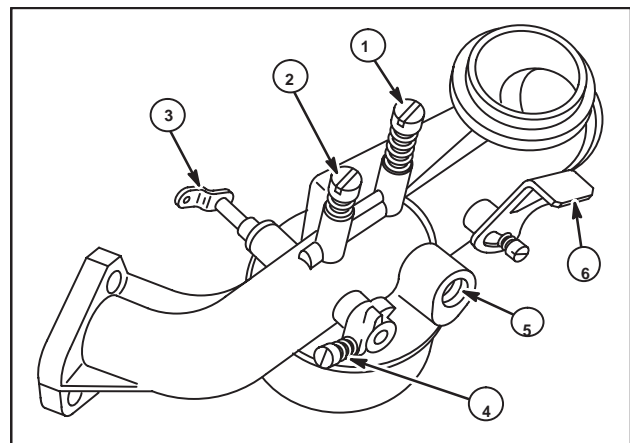

Fig. 122
The small One-Piece Flo-Jet carburetor is illustrated in Fig. 122 and was used on early Model Series 170700. These are float feed carburetors with adjustable orifice main jet needle valve and adjustable idle circuit needle valve located on top of carburetor.
- Main jet needle valve (1)
- Idle mixture needle valve (2)
- Throttle lever (3)
- Idle speed adjusting screw (4)
- Fuel inlet (5)
- Choke lever (6)
- Fig. 122